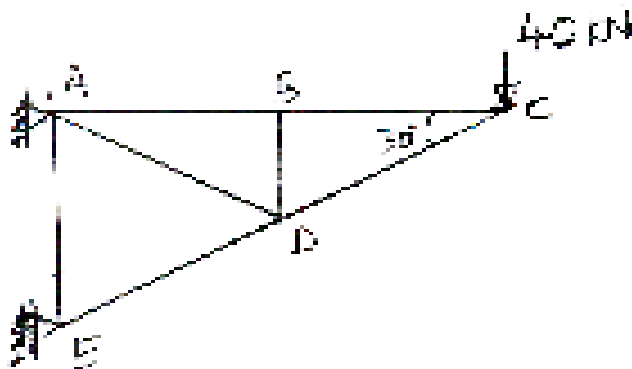

Fig. 9
5. a) Find the vertical deflection of point 'C' of the truss supported and loaded as shown in Fig. 9, using Costigliano's first theorem. Assume $E = 200 \text{ GPa}$ and cross-sectional area for all members = 1300 mm^2 . 8